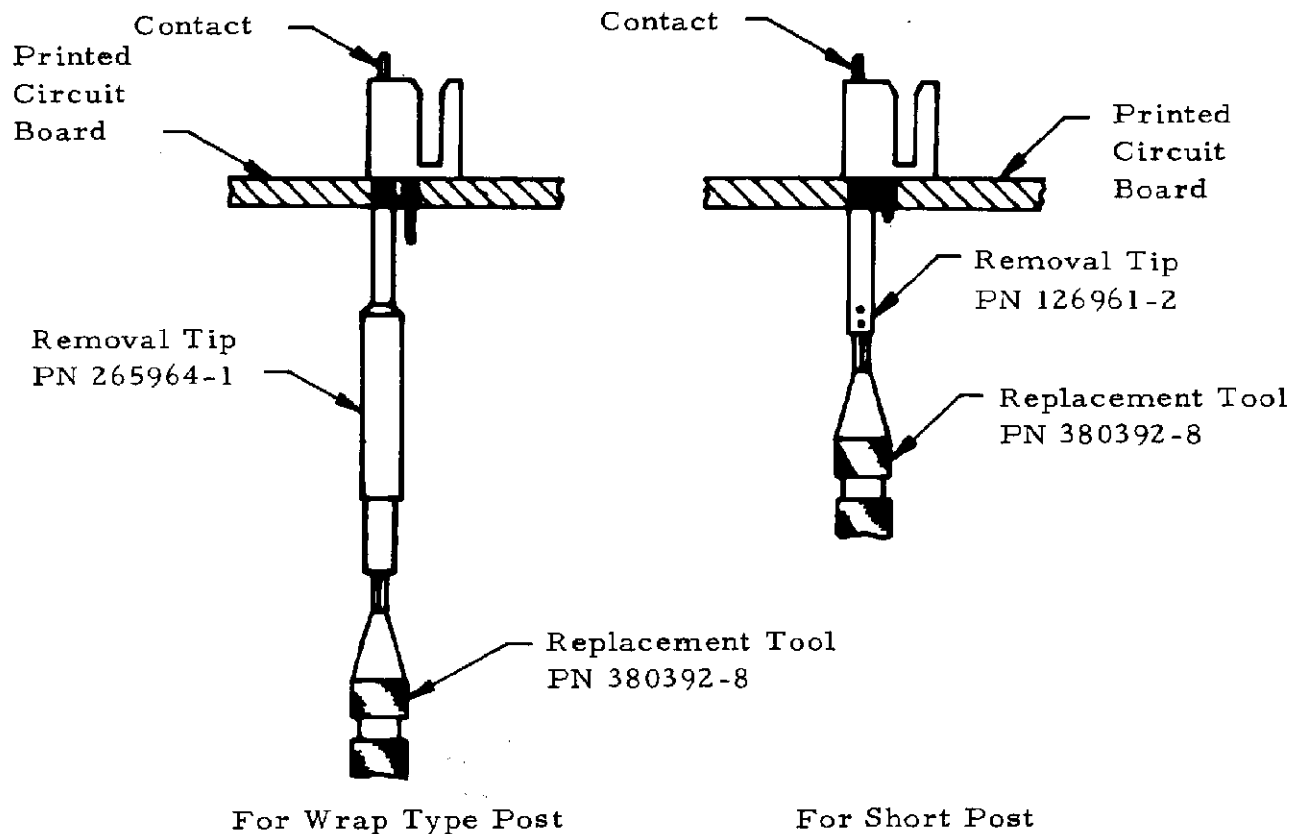

Figure 10
- B. Fit removal tip over damaged ACTION PIN contact, making sure pin replacement tool is perpendicular to printed circuit board, and push on tool until contact snaps free as indicated in Figure 10.